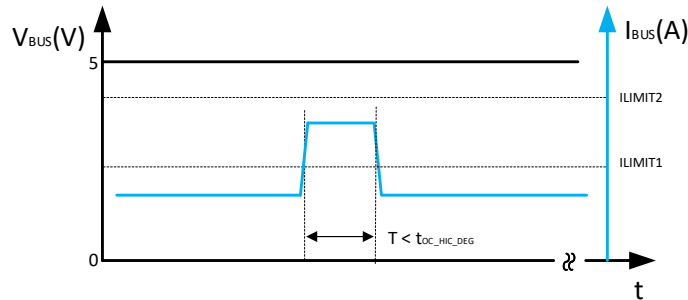

图 10-18. Two level Current Limit Methodology with ext MOSFET Case 1
- Case 1: If the load current  $I_{BUS}$  is in the range  $I_{LIMIT2} > I_{BUS} > I_{LIMIT1}$ , and the duration  $< t_{OC\_HIC\_DEG}$ , the external MOSFET will remain on and  $V_{BUS}$  will stay unchanged, as shown in 图 10-18.